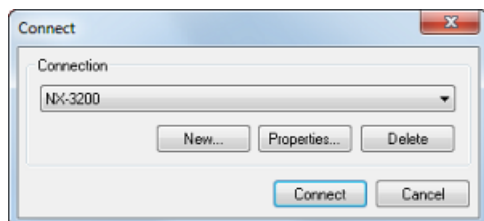

FIG. 151 Connect dialog
1. In TPDesign5, select **Transfer > Connect** to open the *Connect* dialog (FIG. 151):